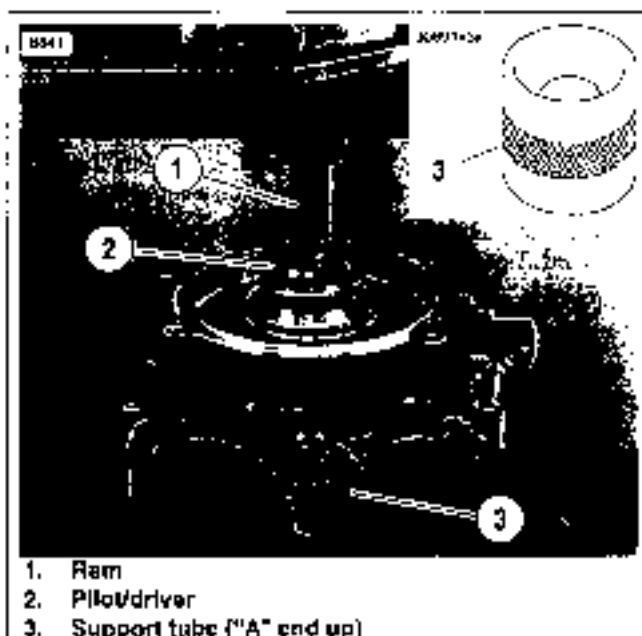

Figure 3-160. Left Crankshaft (Roller) Bearing Removal
6. See Figure 3-160. Place support tube (3) on hydraulic press table with the "A" end up. Note that the sides of the support tube are stamped "A" and "B" to indicate proper orientation.
10. Slide pilot/driver (2) through crankshaft (roller) bearing into support tube.
11. Center pilot/driver under ram (1) of press. Apply pressure to pilot/driver until bearing is free.